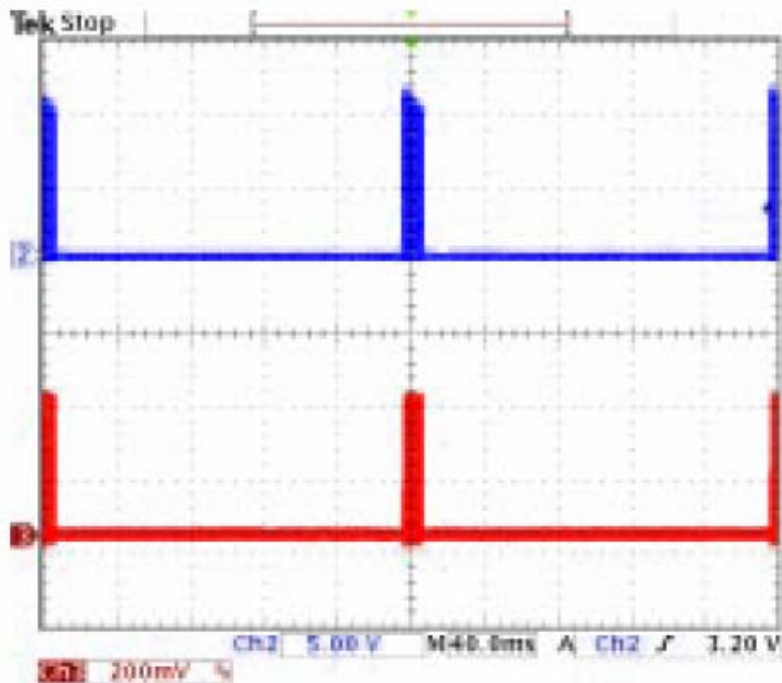

Figure 5. Gate Driver and Drain Voltage during Overload.
3.4 Increase supply voltage to 240 VAC. Gradually increase load current until board enters overload protection (\sim 2.5 A). Verify overload protection with Figure 5.